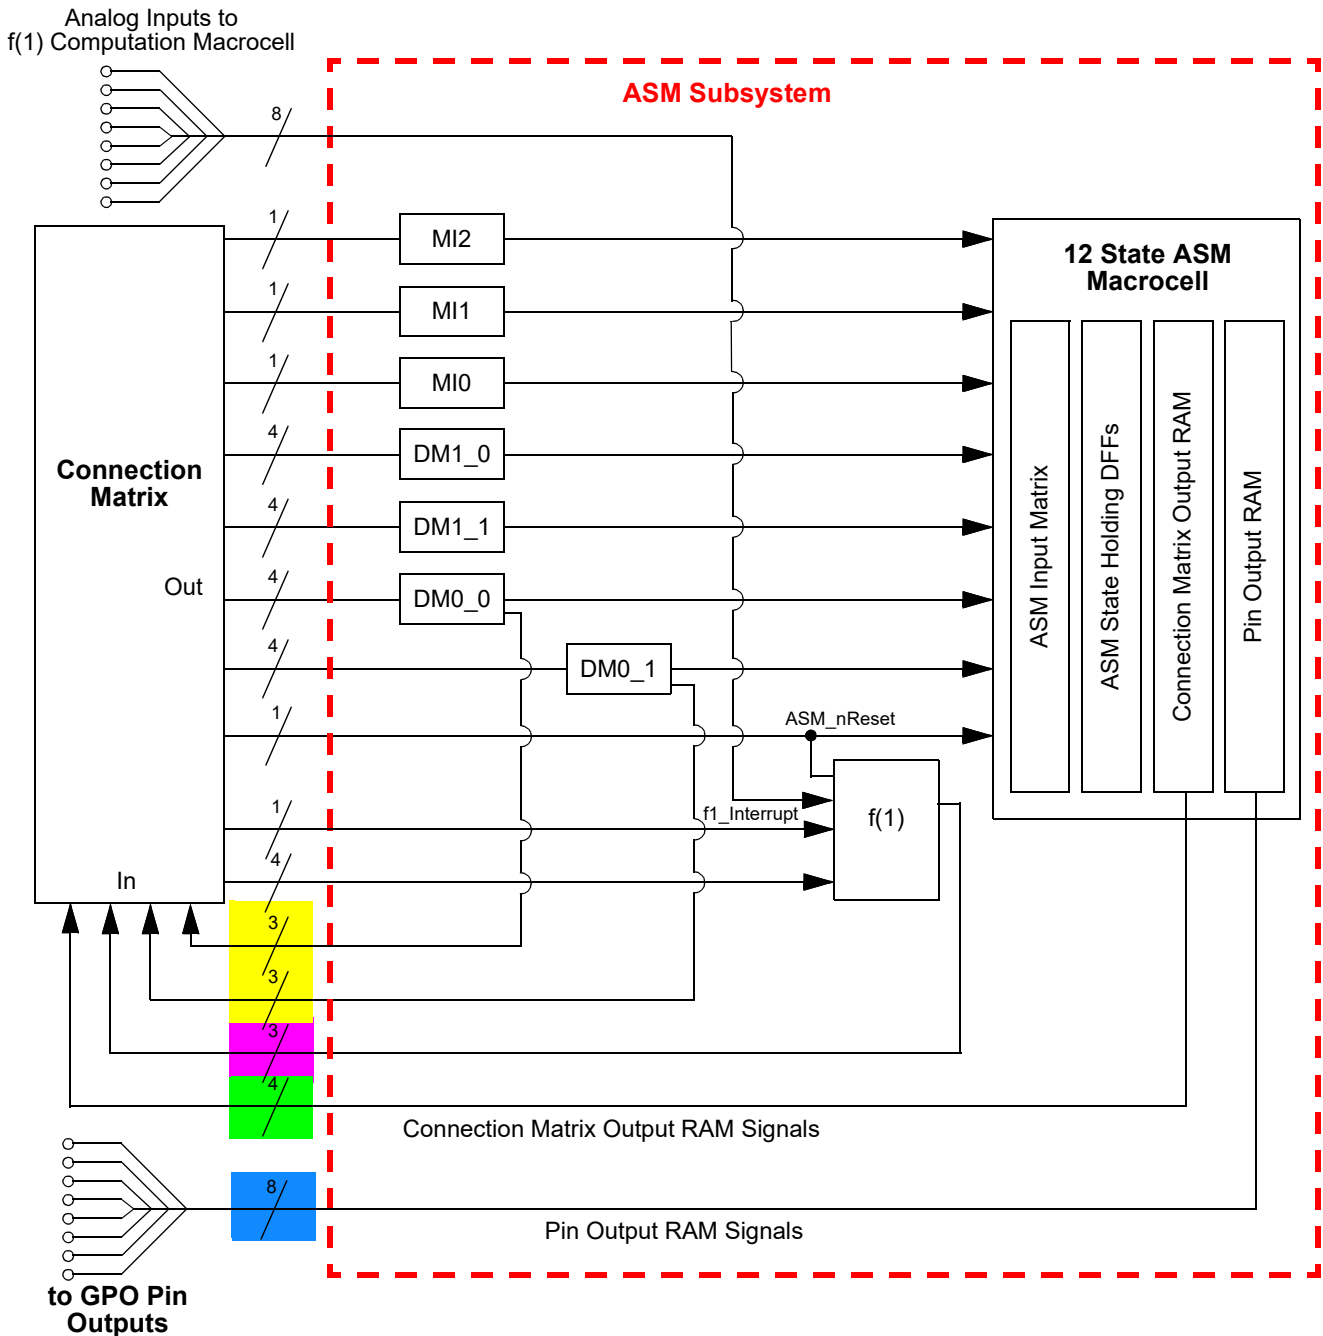

Figure 101: ASM Subsystem Input Signals
The ASM subsystem has a total of 21 output signal lines, as shown in Figure 101.
There are a total of 4 output signals from the ASM macrocell which go to the Connections Matrix inputs and from there can be routed to other internal macrocells or pins. These signals are shown in Figure 101, highlighted in green. The 4 outputs are user defined for each of the possible 12 states. The user selection for the output states is held in the Connection Matrix Output RAM.
There are a total of 8 output signals from the ASM macrocell which go directly to the 8 GPOs. These signals are shown in Figure 101, highlighted in blue. The 8 outputs are user defined for each of the possible 12 states. The user selection for the output states is held in the Pin Output RAM. Each of these GPOs has a single selection bit which defines the GPO input source as either the ASM Output RAM signal or the Connection Matrix signal.
Two of the Dynamic Memory macrocells, DM0\_0 and DM0\_1, can be used as either a resource for generating input signals for driving state transitions in the ASM macrocell, or to generate signals for use in other parts of the user design. When used to generate signals for purposes other than ASM state transitions, each of these macrocells has three output signals that go to the Connection Matrix, and from there can be routed to other internal macrocells or pins. Each of these macrocells has a total of 3 output signals of this type. These signals are shown in Figure 101, highlighted in yellow.
The f(1) Computation Macrocell has 3 output signals that go to the Connection Matrix, and from there can be routed to other internal macrocells or pins. These signals are shown in Figure 101, highlighted in pink.